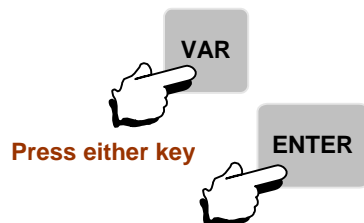

Figure 13: Exit Program Mode Without Changing the Variable's Value
3.	Press the VAR or ENTER key to exit Program Mode with no change to the data. See Figure 13 for a pictorial of this step.